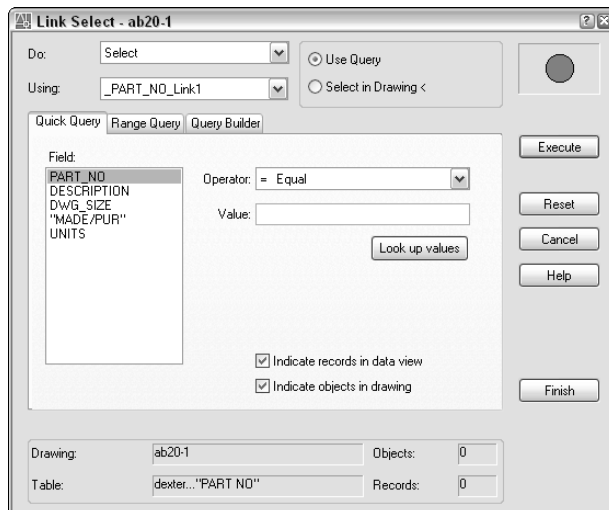

**Figure 20-23:** Use the Link Select dialog box to create combined selection sets of objects from queries and/or direct selection in your drawing.
1. Choose dbConnect ⇄ Links ⇄ Link Select, to open the Link Select dialog box, shown in Figure 20-23.